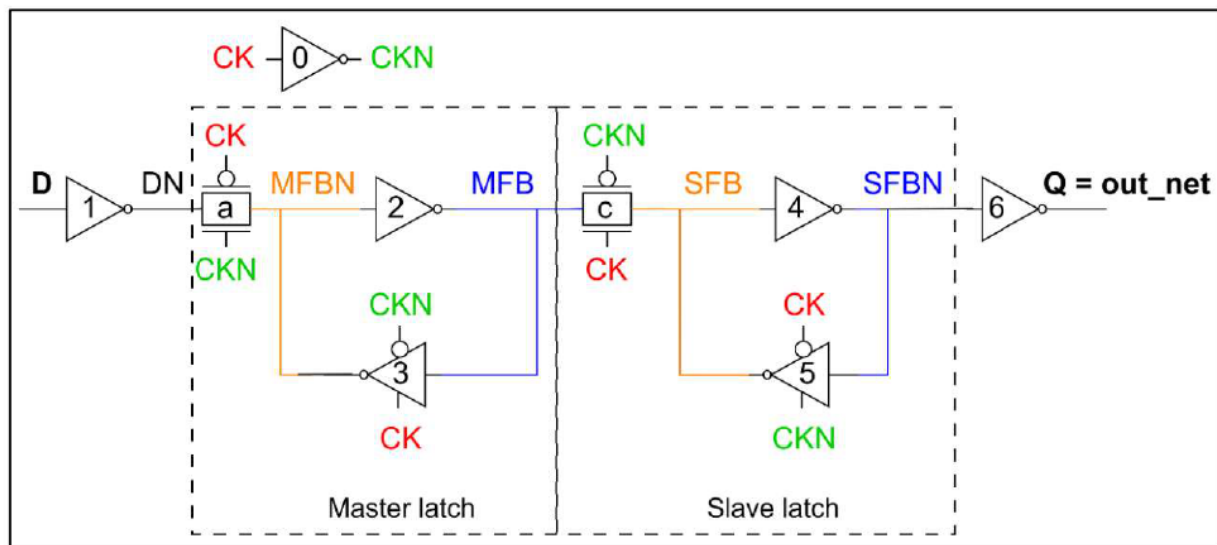
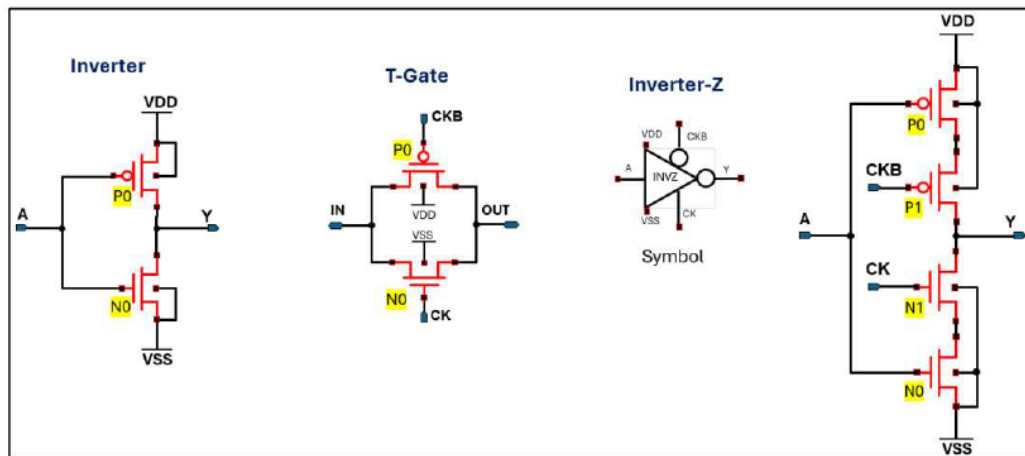

Figure 2. Architecture of a D flip-flop based on master-slave latch configuration
Figure 3. The architecture of INV, INV-Z and TGATE
1.3. Instruction: Assemble the circuit as shown in **Figure 2** and **Figure 3**, setting power supply parameters by **vdc** source, $vdd = 1.0V$, and the capacitor load $C_{load} = 1fF$. The transistor lengths $L_n = L_p = 45nm$, and W_N, W_P should be configured according to **Table 1**.
- **Figure 3** depicts the architectures of the inverter, inverter-Z, and transmission gate. Students use these three device types, with sizes specified in **Table 1**, to implement a D flip-flop in Virtuoso.